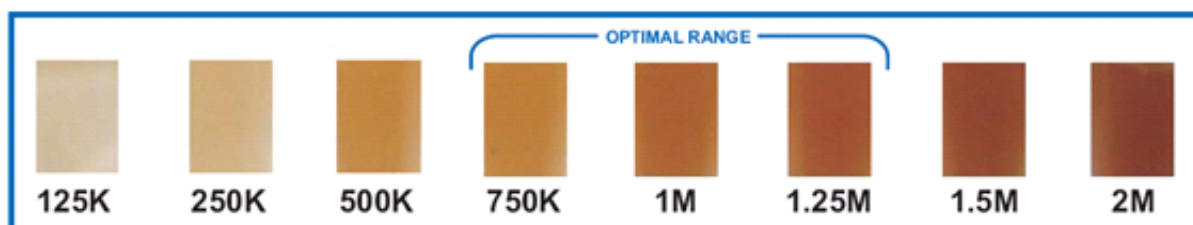

Figure 33 The SOLiD™ Bead Concentration Chart (facsimile). For best results, use the SOLiD™ Bead Concentration Chart (PN 4415131), supplied separately.
4. Use the SOLiD™ Bead Concentration Chart (Applied Biosystems PN 4415131) to estimate the bead concentration of the beads (see Figure 33 for a picture of the chart; for best results use the official chart).